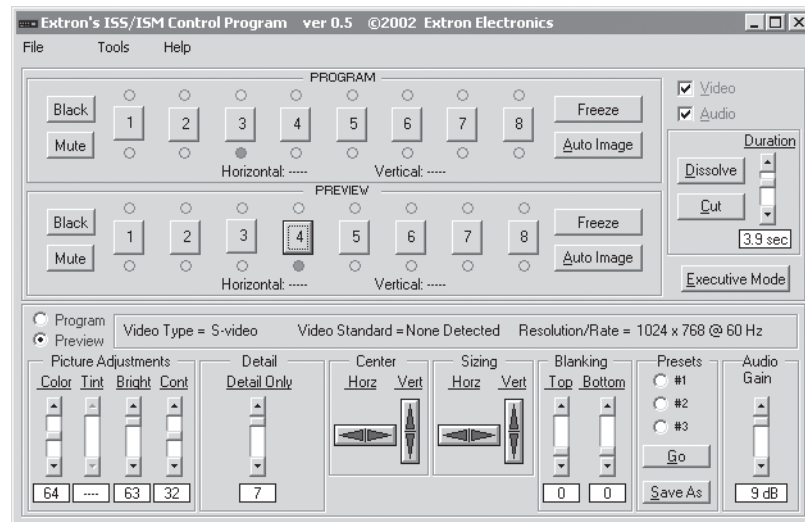

Figure 5-3 — Windows Control program window
5. The Extron ISS/ISM Control Program window (figure 5-3) appears.